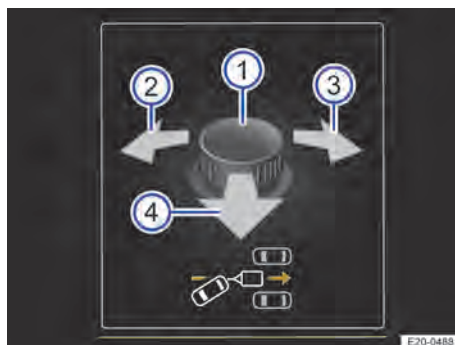

Fig. 136 On the instrument cluster display: adjusting the angle of the trailer using the rotary knob for the exterior mirrors.
- ① Rotary knob for adjusting the exterior mirror position.
- ② Align the trailer to the left.
- ③ Align the trailer to the right.
- ④ Reverse the vehicle and move the trailer towards the target position.
- ⑤ Current trailer position.
- ⑥ Target trailer position.
- ⑦ Zero position on the angle display.
3. Tilt the rotary knob in the driver door until the desired direction is reached → Fig. 136 ①.